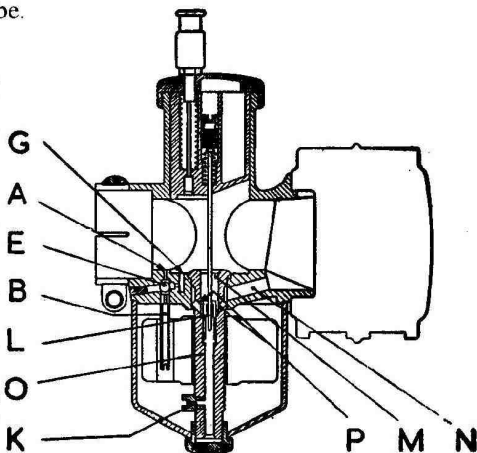

Fig. 3.
**1(a) Pilot-Jet System.** (See Figs. 3 and 3A for reference).